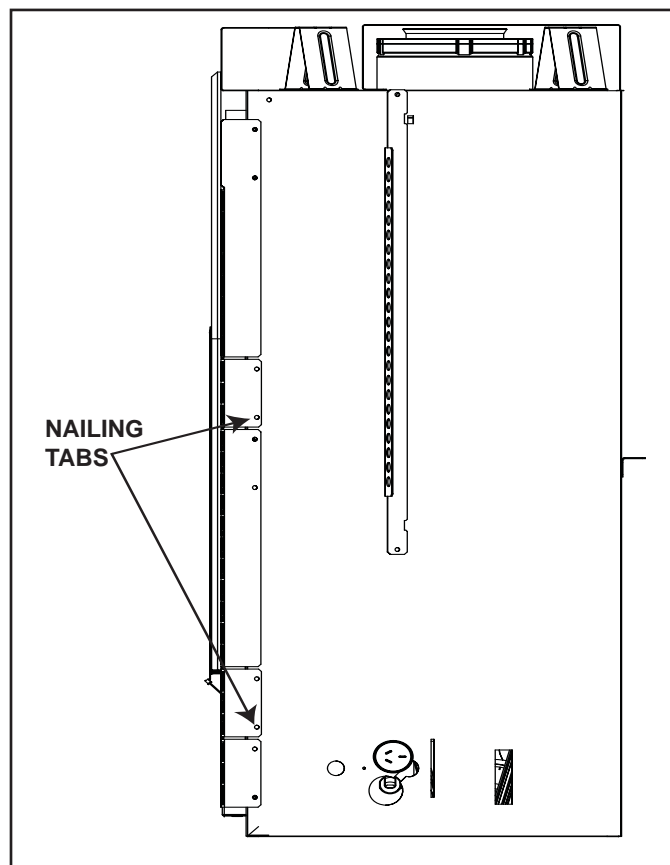

Figure 13.1 Nailing Tabs Installation Position
1. Bend two nailing tabs away from fireplace 180 degrees on both left and right nailing tabs. Do not adjust the column standoffs. See Figure 13.1.